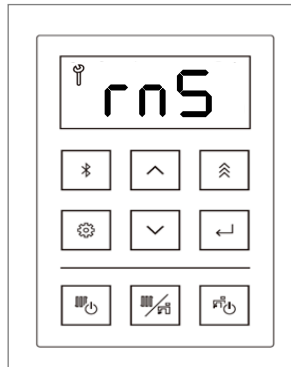

Figure 148
10. After 60 minutes flushing time completes, display shows “rnS” (rinsing) (Figure 148) and beeping sound is observed.